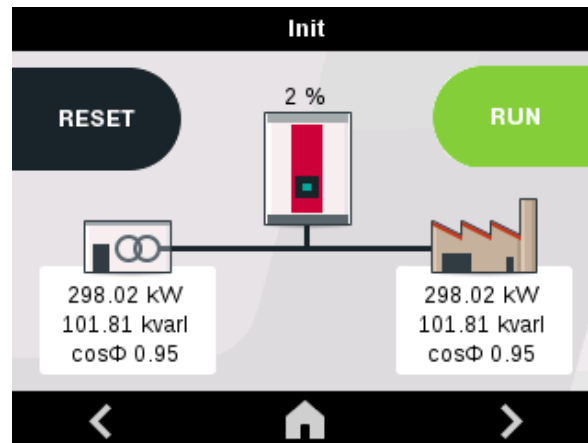

Figure 23: SVGm home screen.
When the device has been powered on, the screen shown in **Figure 23** appears on the **SVGm** display.
4.- Go back to the home screen of the device, **Figure 23**, if there is no problem with the connections, the upper area should show the message **"Stop"**.